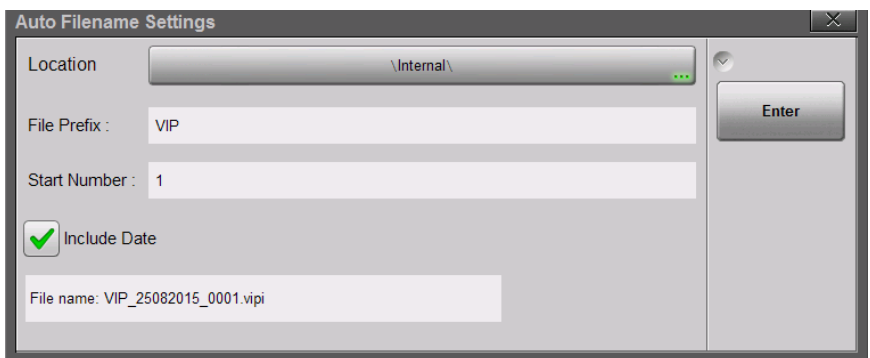

Figure 12-4. Auto Filename Settings Dialog
6. Press the **Auto Filename Settings** submenu key to open the dialog box shown in Figure 12-4. Press the **Location** bar to change the save location. To edit the file prefix or the starting number, press the appropriate text box. You may also include the current date.
Auto Filename Settings: Press this submenu key to open a dialog box where you can preset the location and name of files to be saved. See Figure 12-4 on page 12-5. You can define a prefix (VIP is the factory default) and set the starting number from which file numbering will increment. You may also choose to include the current date in the file name, in the format DDMMYYYY. For example: